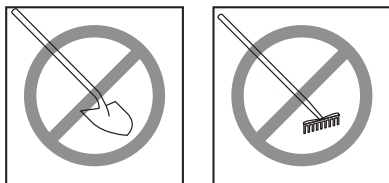

Figure 8: Avoid damage by not using shovels or rakes
- Do not use sharp objects such as shovels, rakes, etc. when installing the cable (Figure 8).